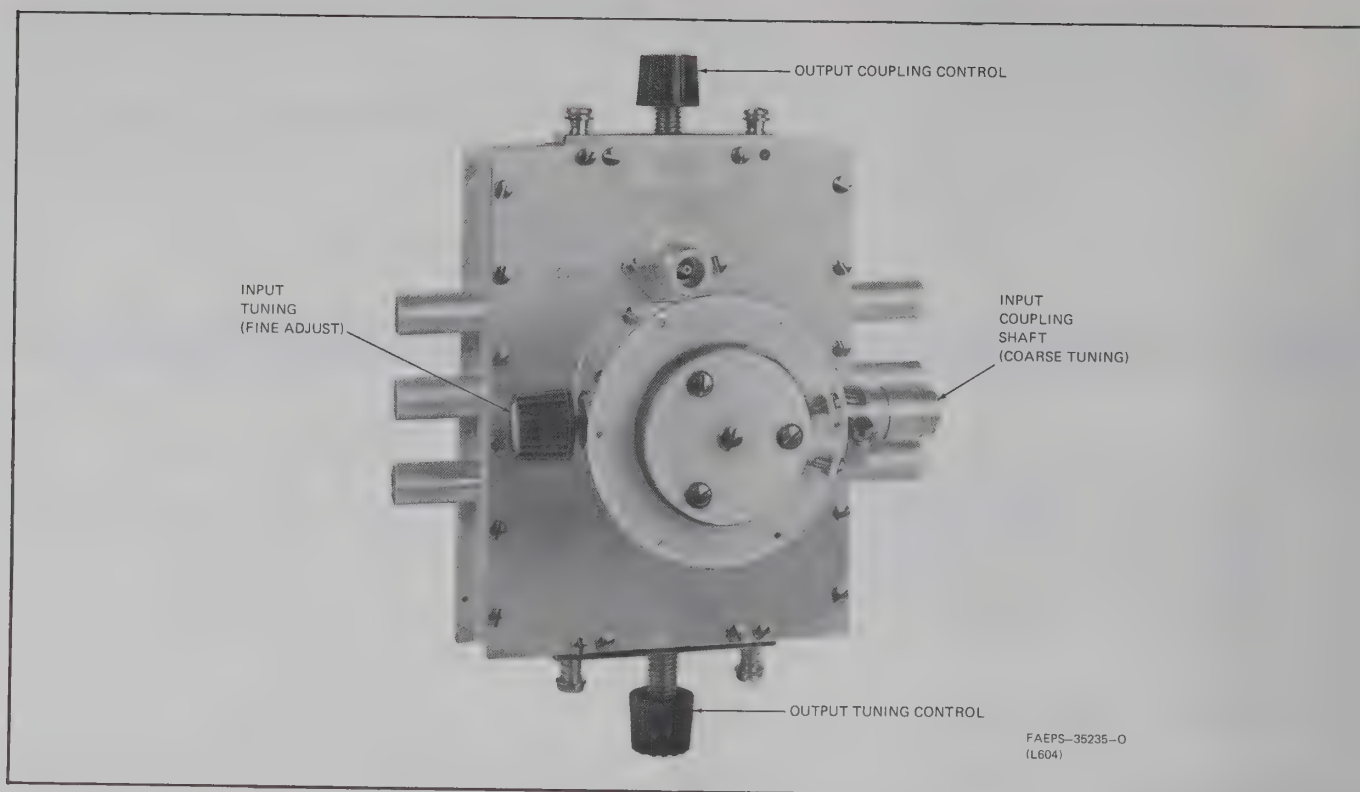

Figure 1. Final Power Amplifier Controls
Step 5. Set the controls on amplifier as indicated below. (See Figure 1.)